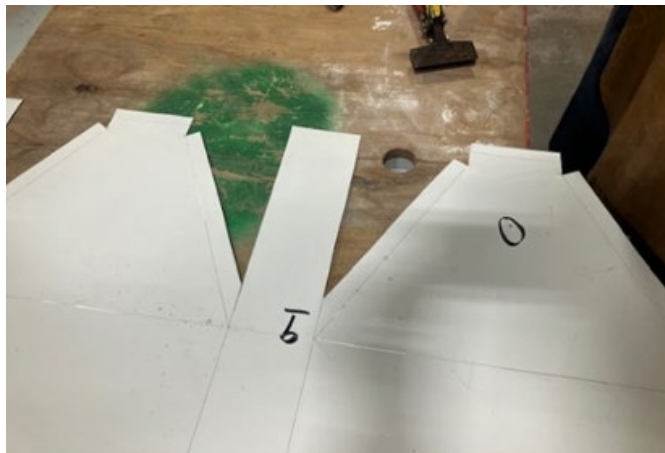

Figure C-6. Notch Plenum Blank Corners.
2. Notch the plenum blank corners as noted on the pattern (see Figure C-6).